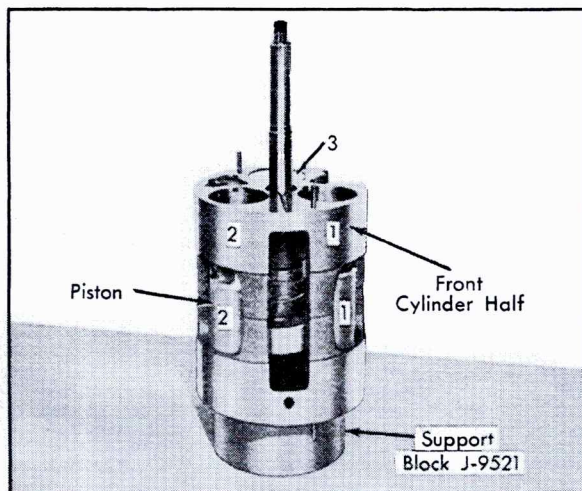

Fig. 1-58 Numbering Piston and Cylinder Bores
2. Identify by pencil mark, or some other suitable means, each piston numbering them 1, 2, and 3, Fig. 1-58. Number the piston bores in the front cylinder half in like manner so that pistons can be replaced in their original locations.